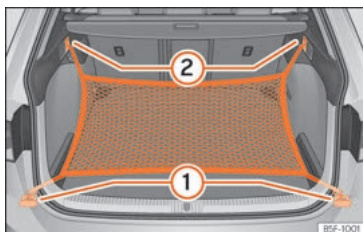

Fig. 190 In the boot: rings ① and hooks ② for securing the net bag (LEON ST model).
- Secure the short net hooks to the fastening rings » Fig. 190 ① » ⚠. The bag zip should be facing upwards.
- Secure the straps in the bag hooks ②.